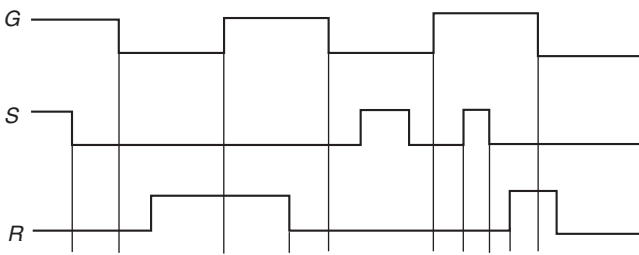

Fig. 12.11 G, S, and R Inputs into a Gated S-R Latch.
12.11 For the G, S, and R inputs in Fig. 12.11 into the gated S-R latch, sketch the output wave at Q, and list the latch functions.